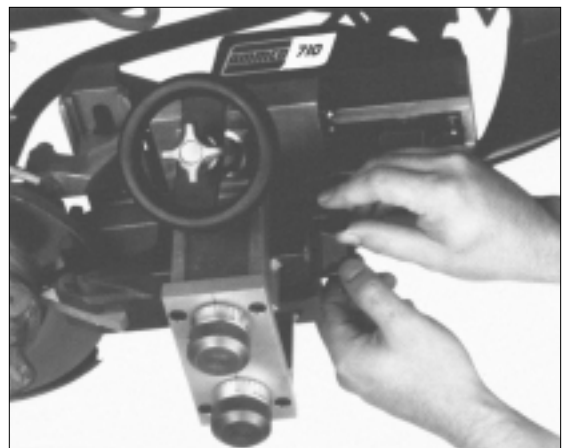

Figure 18
14. Tighten the cutter locking knobs, Fig. 18.